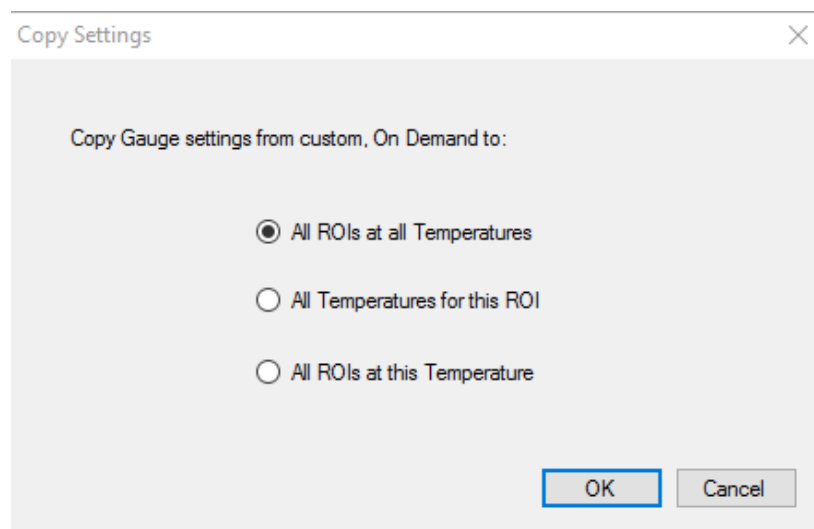

Figure 2.15 Copy Settings Dialog
- **Copy** – Copies chosen settings between all ROIs. Available settings that can be copied are shown in **Figure 2.15**.
This is a series of tabs with each ROI name, as well as a Profile tab, if one has been loaded. If Part Tracking is enabled, a 'Tracked Parts' tab becomes available. These tabs allow the settings for each ROI to be independent of one another but can be synced in various ways using the Copy Settings Dialog shown in **Figure 2.15**.